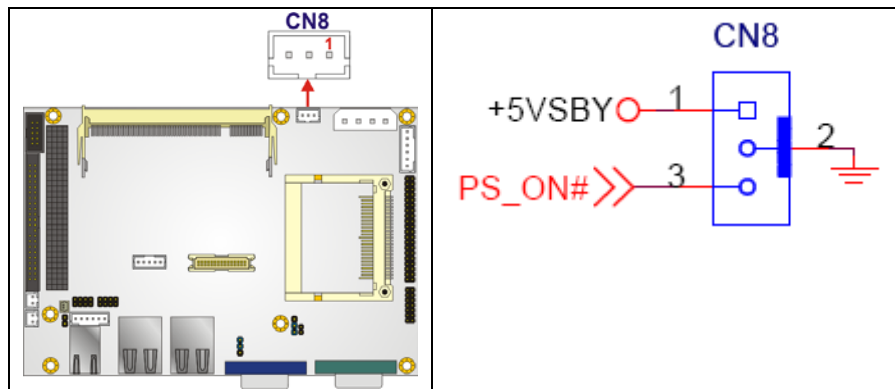

Figure 4-3: ATX Power Connector Location
- CN Location:** See Figure 4-3